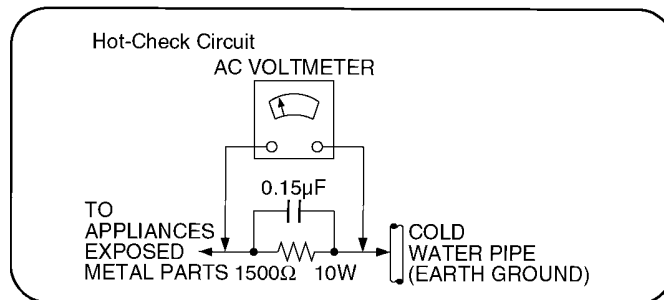

Figure 1
1.1.2. LEAKAGE CURRENT HOT CHECK (See Figure 1.)
2. Connect a 1.5kΩ, 10 watts resistor, in parallel with a 0.15µF capacitors, between each exposed metallic part on the set and a good earth ground such as a water pipe, as shown in Figure 1.